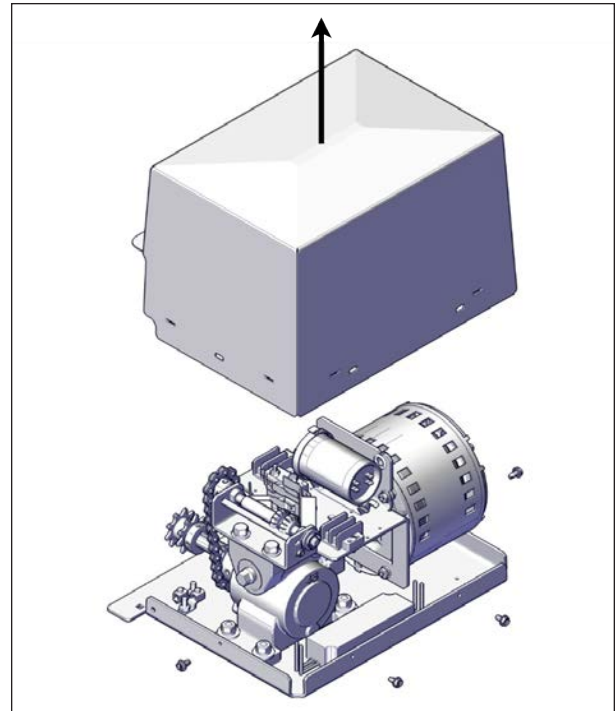

FIGURE 79: REMOVE OPERATOR COVER
1. Remove the screws (4) on the bottom side of the operator cover and remove the cover see Figure 79.
2. Remove the four slotted screws at the bottom of the operator and remove the cover Figure 79.